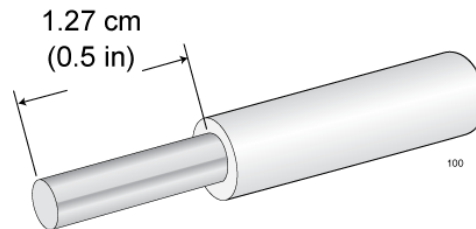

Figure 36. Stripping the Grounding Wire
1. Prepare an adequate length of stranded grounding wire (10 AWG) for the ground connection by stripping it as shown in Figure 36.